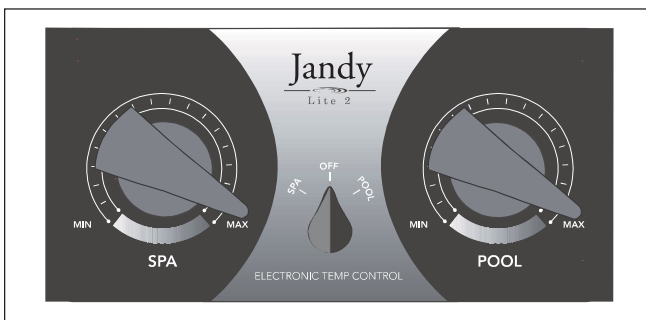

Figure 17. Temperature controls.
1. Set the control panel rotary switch to the OFF position (see Figure 17).
2. Set the rotary switch on the temperature control panel (see Figure 17) to OFF.
The temperature control (see Figure 17) is calibrated at the factory and covers a range from approximately 70°F to 104°F (21°C to 40°C). Use an accurate pool thermometer to determine the best water temperature for your uses.
The Lite 2 Low NO_x heater has dual temperature controls, which allows two different temperature settings, selected by the rotary switch in the middle of the panel. One control can be set for normal use and the other for standby; or one can be set for pool and the other for a spa. Placing the rotary switch in the middle turns off the heater (see Figure 17).